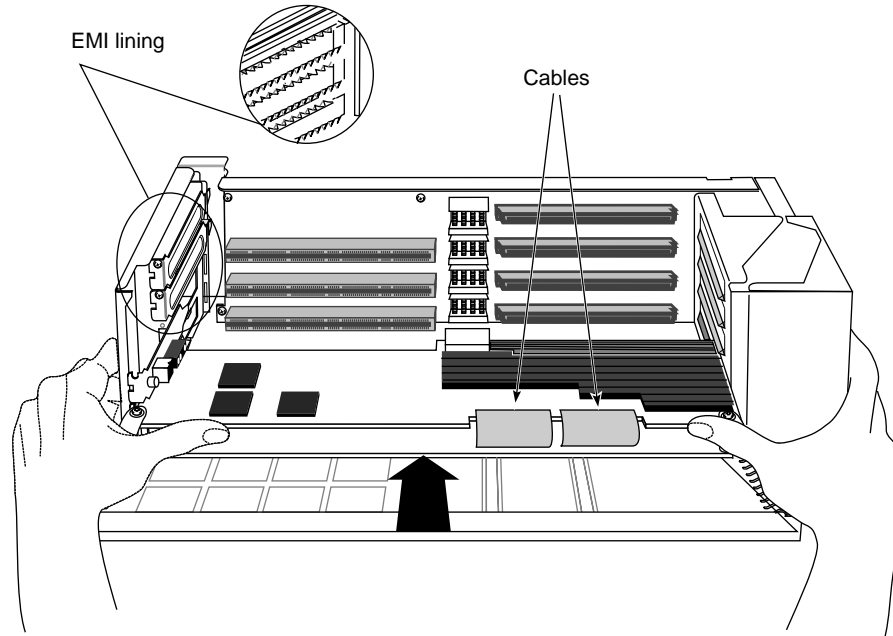

Figure 2-24 Connecting the Indigo² IMPACT Graphics Board(s) to the Midplane (High IMPACT Version Shown)
- Grasp the chassis with your fingers and push the board set into place with your thumbs. See Figure 2-24.